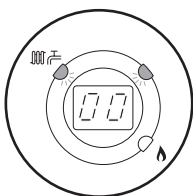

Fig. 91
7. The display will show '00', indicating maximum rate, then revert to 'P' alternating with the current boiler temperature (Figs 91, 92 & 93).